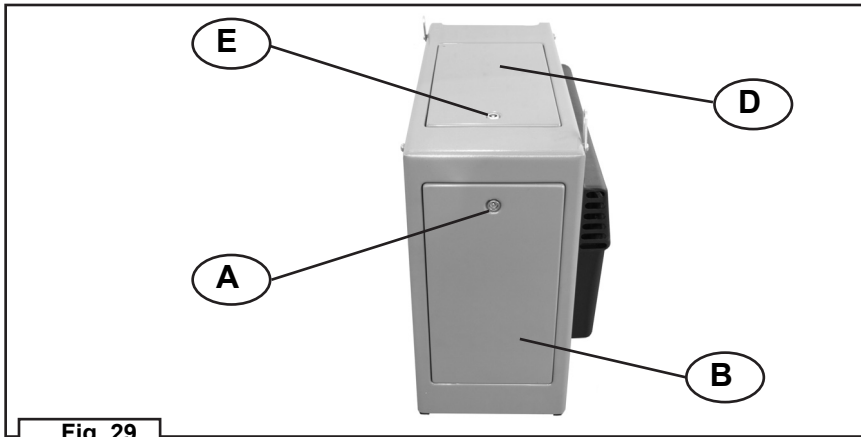
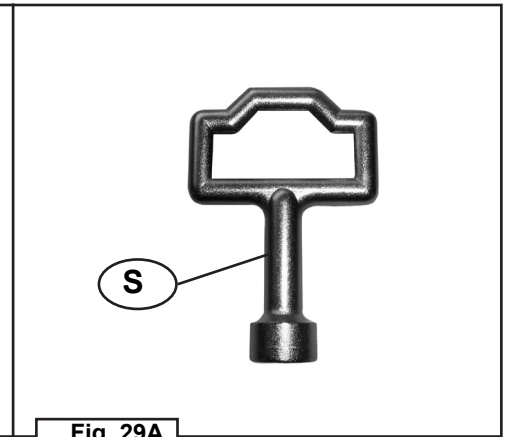

Fig. 29
Fig. 29A
3	Loosen the fastening screws (A) using the spanner supplied S (fig. 29A) to open the protection case (B) (fig. 29).